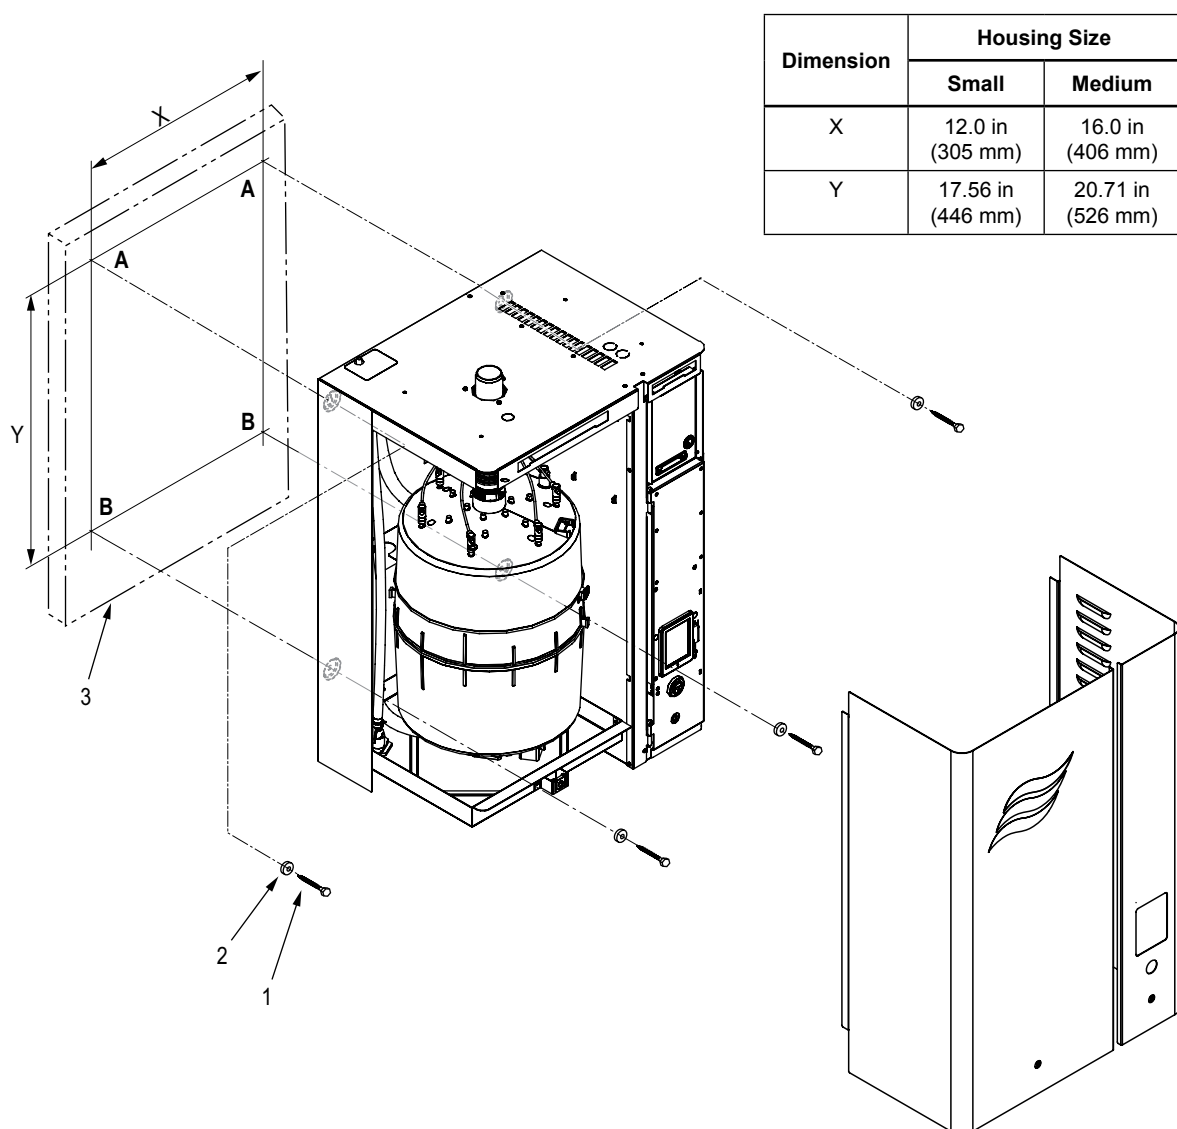
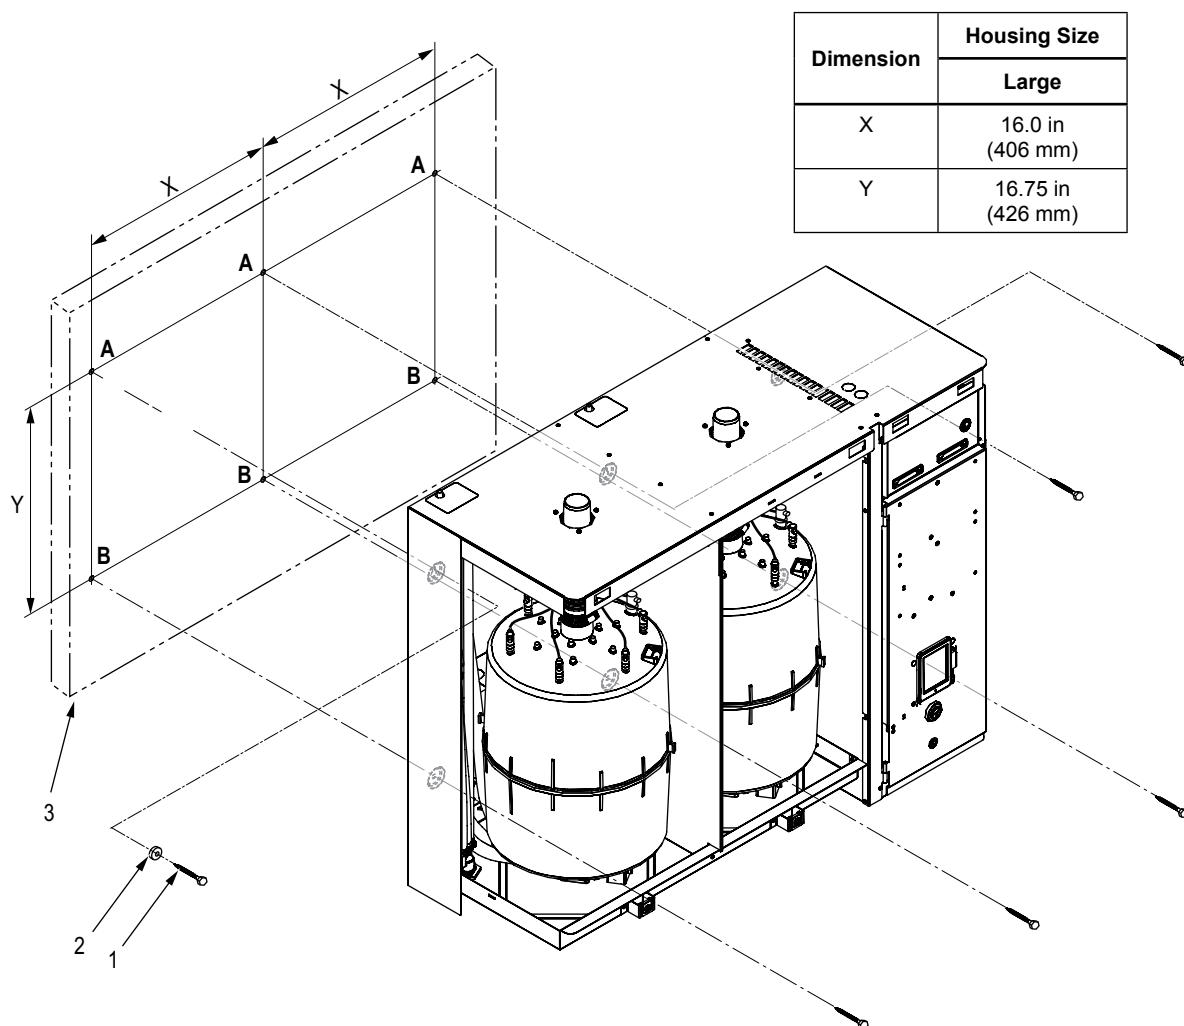

Figure 11: Optional Seismic Mounting, Small or Medium Housing
Figure 12: Optional Seismic Mounting, Large Housing
2. Mark the attachment points "A" and "B" at the desired position on the plywood sheets (or equivalent) with the help of a level. For small or medium housing refer to Figure 11. For large housing refer to Figure 12 on page 23.